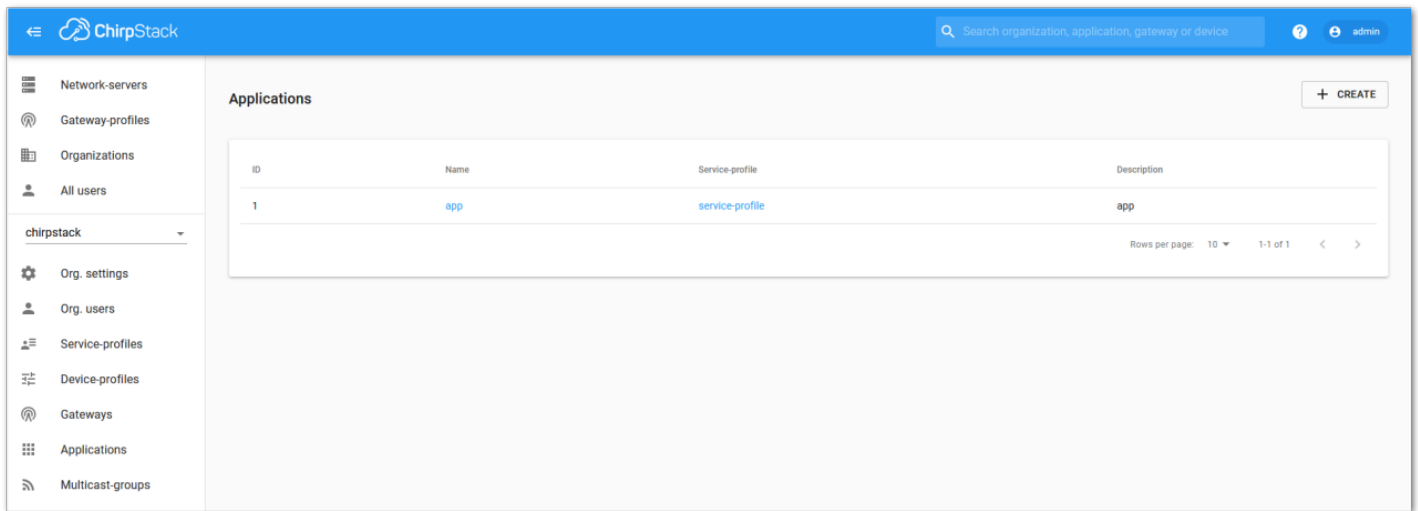

Figure 206: Application Section
2. Go to the Application section, as shown in **Figure 206**.